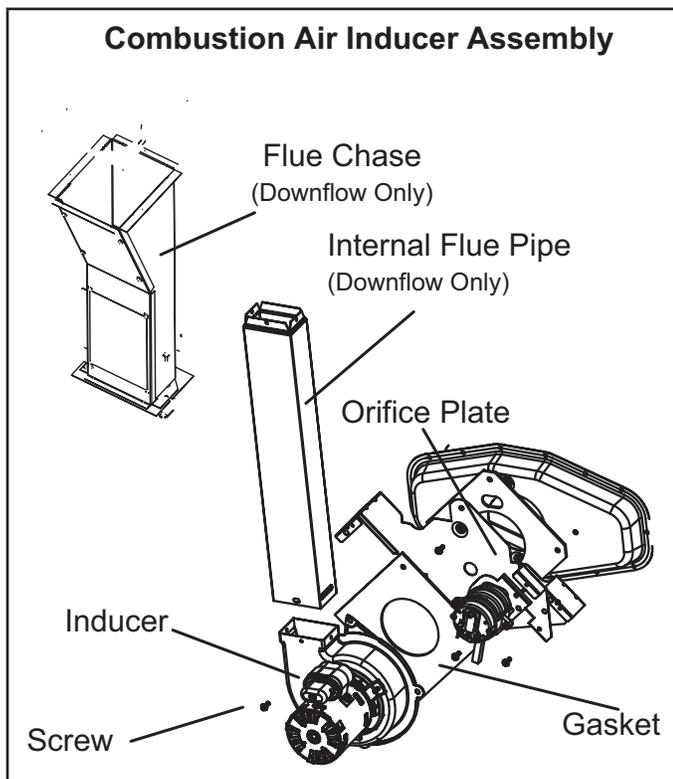

FIGURE 1
DF Units Only -- Remove the screw that secures the internal flue pipe to the inducer. See figure 1. It is not necessary to separate flue chase from internal flue pipe.
- DF Units Only** -- Secure the internal flue pipe to the combustion air inducer using the existing screw. See figures 1 and 3.